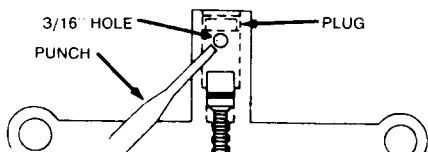

**FIG. 1
- To remove thermostatic coil & cover assembly (28), drill pop rivet heads off, then pull remainder of rivets from housing. On some models, cover assembly (28) is retained by snap-off head screws. To remove, grind head or file a slot for a screwdriver.
- To remove idle mixture needle plug (47), refer to Fig. 1. To remove adjusting screw plug (32), carefully drill a 1/8" hole, then pull plugs using an *Easy Out* tool.
- Two balls (40) are used for pump discharge. One is used as weight.
- When installing air horn screws (15), tighten evenly in stages to 30 in.-lbs.
- When installing idle adjusting needle (48), turn in until lightly seated, then back out two turns. Install plug after final adjustment on car.
- Install bushing (30) in loop end of thermostatic coil before installing cover onto pin of lever. Make sure tab on ring (29) fits in notch of choke cover.